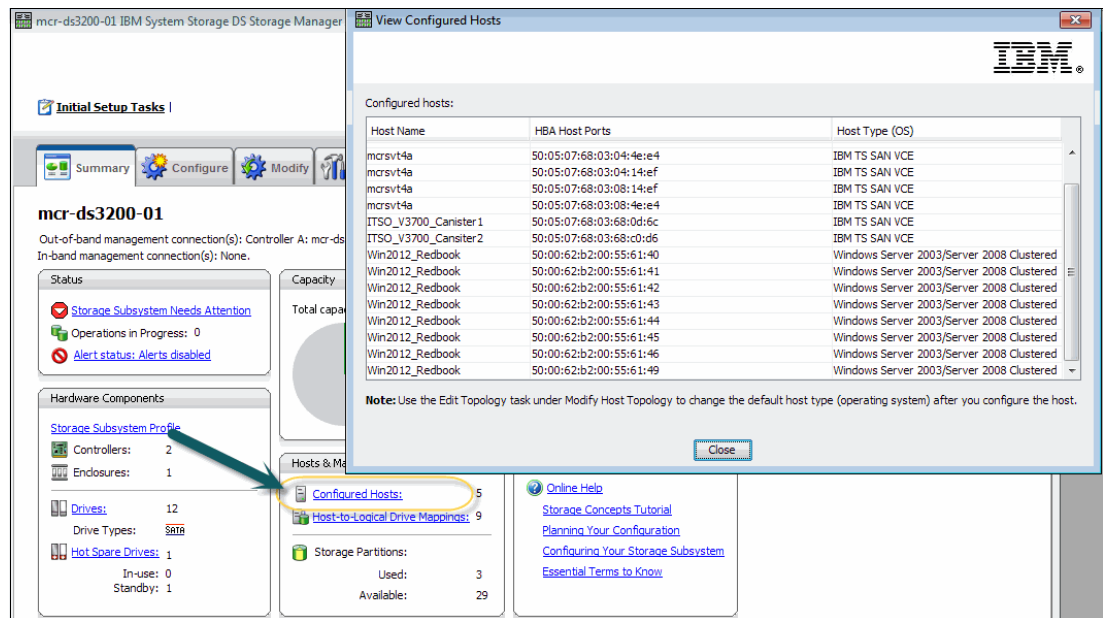

Figure 6-6 Obtaining host WWPN from the external storage
6. Next, record the host information. The easiest way of determining the WWPN of host adapters is to look on the host profile for the existing storage. In this case, from the summary pane of the IBM System Storage DS Storage Manager, select the **Configured Hosts** option to show the host SAS ports, as shown in Figure 6-6.